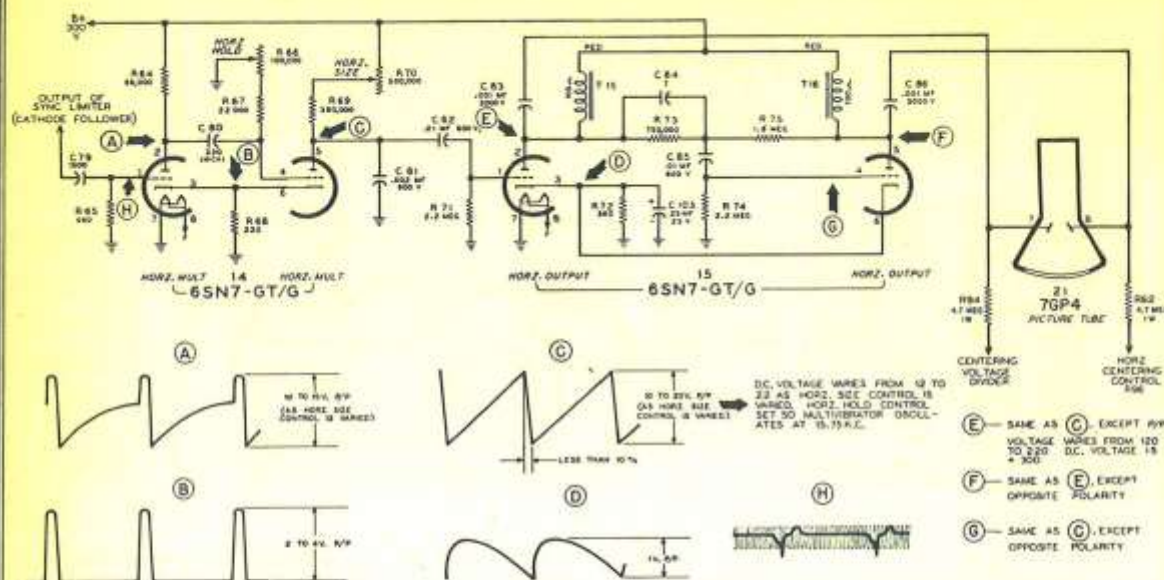

Figure 15. Horizontal Sawtooth Generator and Sweep Amplifier
The horizontal sawtooth generator (see figure 15) uses a type 6SN7 tube (14) as a conventional cathode-coupled multivibrator with a differentiating circuit, capacitor C79 and resistor R65, feeding sync pulses to the first grid (pin 1). The horizontal multivibrator can be easily adjusted with horizontal hold control R66 to sync at 15.75 kilocycles. The second plate of the multivibrator acts as a discharge tube across capacitor C81 to give a sawtooth output. A small change in the value of this capacitor C81 greatly affects the size of the sawtooth output. The value of sawtooth forming capacitor C81, with charging resistors R70 and R69, is such as to permit use of the linear portion of the charging curve. Changing the value of horizontal size control R70 changes the size of the picture horizontally.